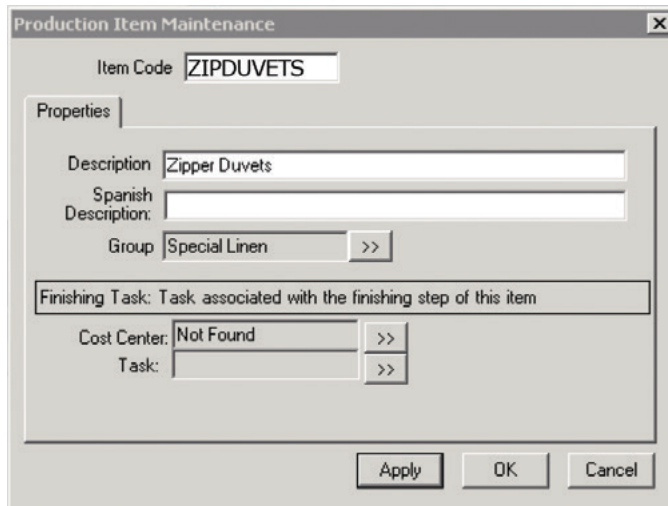

Figure 14. *Production Item Maintenance* dialog.
3. Click **New** to open the *Production Item Maintenance* dialog (see Figure 14).